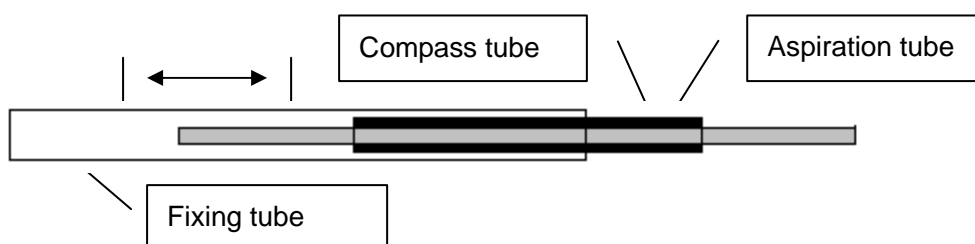

Figure 3-1 Aspiration tube connector at the entrance of flow Flow-Cell
- Remove the aspiration tube at the entrance, and change a new aspiration tube. At one end of the new aspiration tube, compass tube (the middle) is sheathed first, and then fixing tube (the thickest) is sheathed. Pay attention: to leave 1cm outside the compass tube. (As figure 3-1).